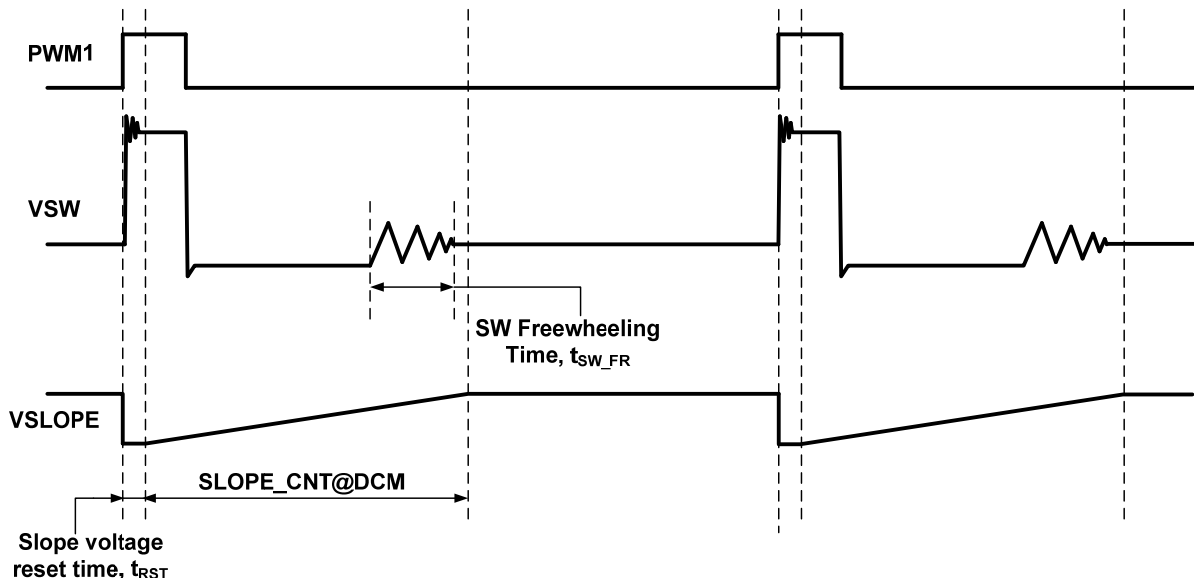

Figure 32: Slope Voltage Compensation at DCM
The MFR_SLOPE_CNT_4P command on Page 0 is used to set the slope voltage clamp time at 4-phase operation. The clamp time is used to limit the slope voltage when the switching off-time is too long (e.g.: DCM operation or output load release transient). This command should cover the regular PWM switching off-time (see Figure 32). The slope voltage is clamped once the clamp timer expires, which means there is no more slope compensation. To provide enough time margin for slope compensation, it is recommend to design a slope clamp timer with the 130% of the switching off-time, as shown in Equation (19):
At 1-phase DCM, the off time is increased to reduce the switching frequency as the load current reduces. The slope voltage clamp time should be long enough to avoid the SW node freewheeling period when the zero-current detection (ZCD) turns off the low-side MOSFET to transition the SW node to Hi-Z (see Figure 32).